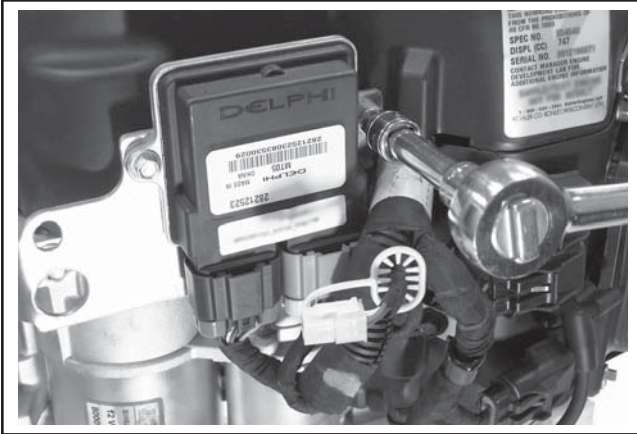

**Figure 10-68. Installing Dipstick Tube.**
4. Install the dipstick tube and align the mounting hole with the threaded hole in the ECU bracket. Secure with the M5 hex flange screw. Torque the screw to **6.2 N·m (55 in. lb.)** into new holes or **4.0 N·m (35 in. lb.)** into used holes. See Figure 10-68.